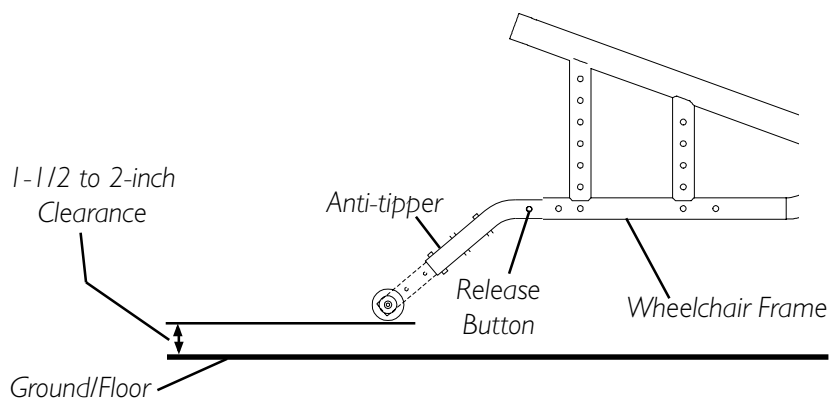

FIGURE 5 - INSTALLING/ADJUSTING ANTI-TIPPERS
INSTALLING/ADJUSTING ANTI-TIPPERS (FIGURE 5)
2. Press the release buttons **IN** and install the anti-tippers with the wheels facing **DOWN** until the locking buttons lock in place as shown in FIGURE 5.